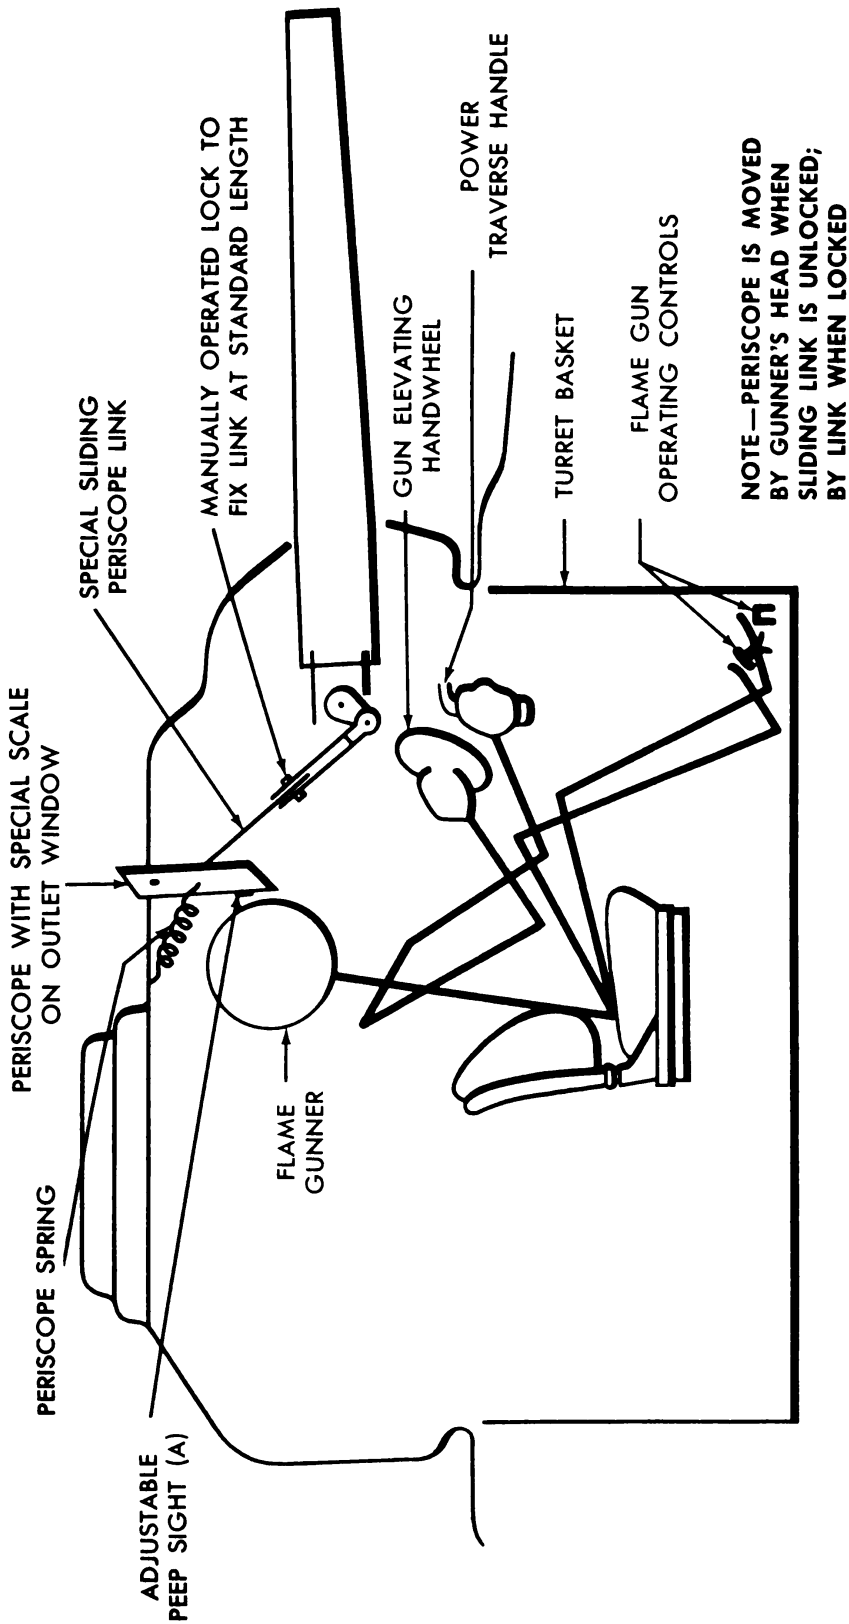

Figure 27—Flame gunner's linked periscope arrangement.
a. General. The turret gunner aims the flame gun by using his linked periscope (fig. 27) with coaching assistance, if necessary, from the tank